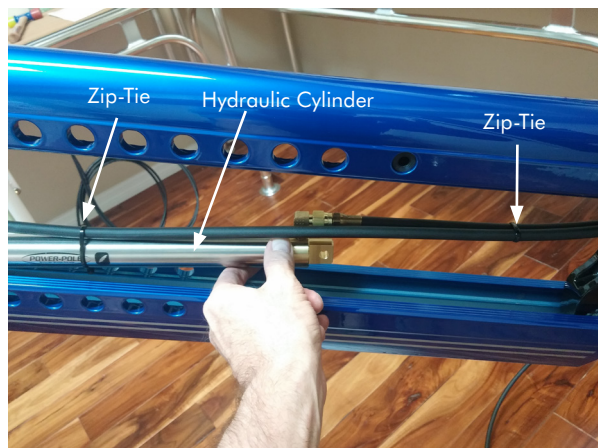

Figure 2
**STEP 2** Cut both **Zip-Ties**. **FIG 2**
**STEP 8** Secure the **UP Hose** to the middle of the hydraulic cylinder using a **Zip-Tie**. **FIG 2**
**STEP 9** Secure the **UP & DOWN Hydraulic Hoses** together about 4" to 5" from the bottom of **Hydraulic Cylinder** using a **Zip-Tie**. **FIG 2**